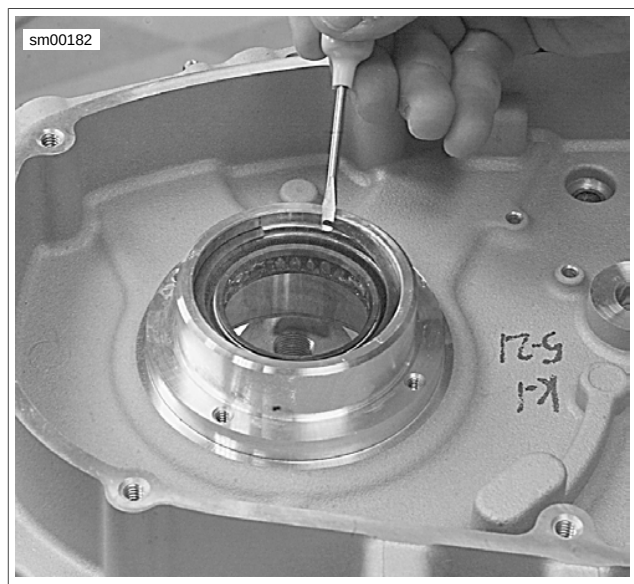

Figure 3-123. Sprocket Shaft Seal Retaining Ring
4. See Figure 3-123. Remove sprocket shaft oil seal retaining ring.